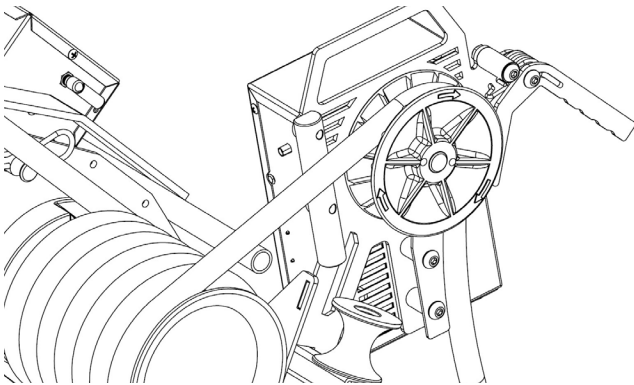

Figure 2
11. Lift the rope retention lever and lay the rope in the V-Pulley. (Fig. 2) Release the rope retention lever so the rope hangs toward the floor. Avoid tugging on the rope as it exits the Pull Assist, this action increases the risk of the rope getting stuck in V-Pulley.